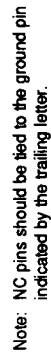

FIGURE 1: Functional Diagram
EXTERNAL COMPONENTS (Refer to Figure 1 for location of components.)
1. The input signal is transformer coupled as shown in Figure 1.
3. The circuit is connected as in Figure 1.
2. The circuit is connected as in Figure 1.